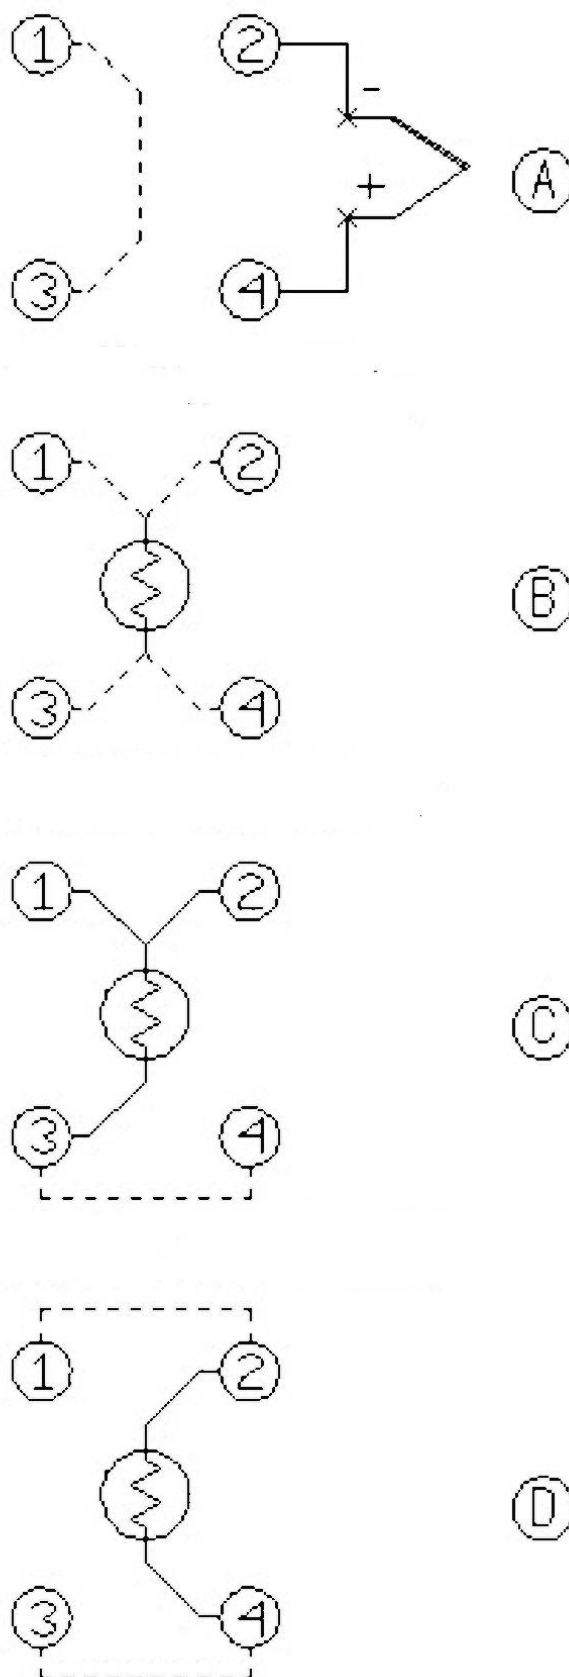

Fig. 6
- Connect the wires of the external temperature probe(s) to the bushes (15) as shown on images (Fig. 6):
- (A) Thermocouples: make a bridge between bushes „1" and „3". Connect sensor to bushes „2" and „4" and pay attention for right polarisation (plus to 4, minus to 2).
- (B) Pt 100 (4-wire): connect the 4 wires of the sensor to the bushes as shown in image „(B)".
- (C) Pt 100 (3-wire): make a bridge between bushes „3" and „4" and connect the 3 wires of the sensor to bushes „1", „2" and „3", see picture „(C)".
- (D) Pt 100 (2-wire): make bridges between bushes „1" and „2" as well as „3" and „4" and connect the 2 wires of the sensor to bushes „2" and „4", see picture „(D)".